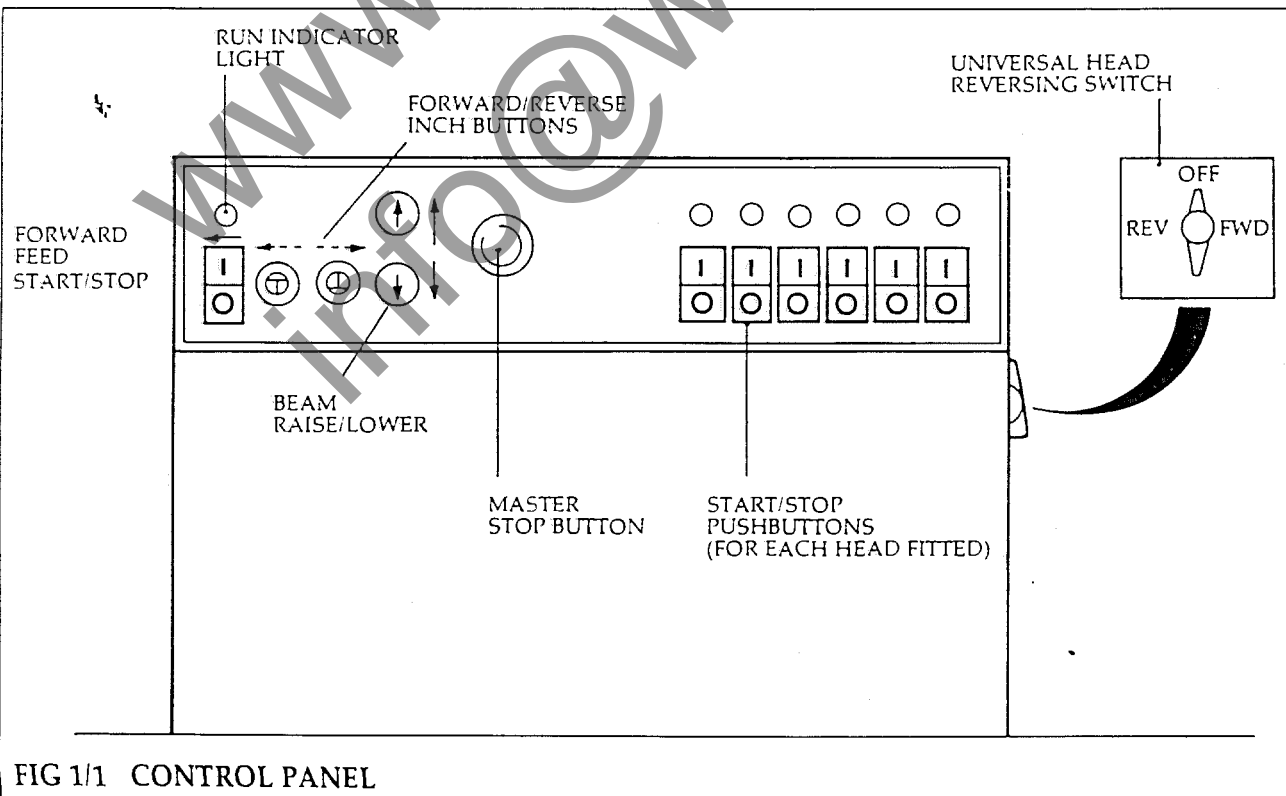

FIG 1/1 CONTROL PANEL
**Machine Controls (Fig 1/1, Fig 1/2)**
Before starting the machine, operators should familiarise themselves with the various controls and their usage (Fig 1/1).